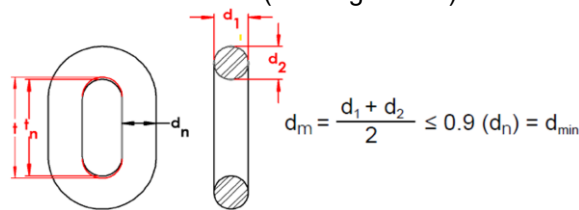

Figure 4-2
If chain is worn to less than the minimum allowable thickness (T), remove the chain from service. (See Figure 4-2)